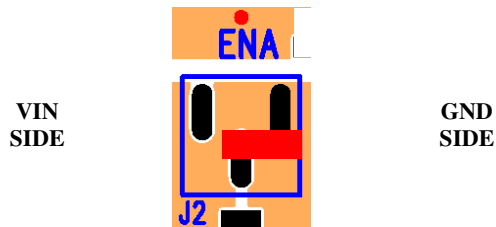

Figure 2: J2 allows control of the Enable pin.
**STEP 4:** The SEL jumper controls the EN\_PB pin. If left floating, this pin is pulled high internally, and the device will support monotonic startup under pre-biased load. To pull this pin low, put the jumper between the middle and right pins just as shown in Figure 2 for the ENABLE pin.